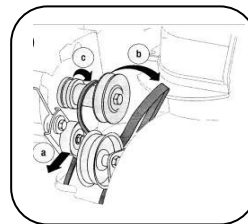

Fig.22
c. Lift the belt off the engine pulley. See Figure 22.